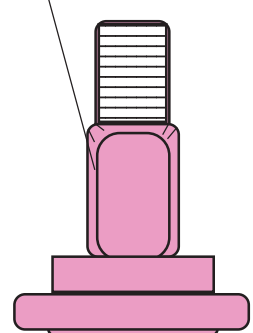
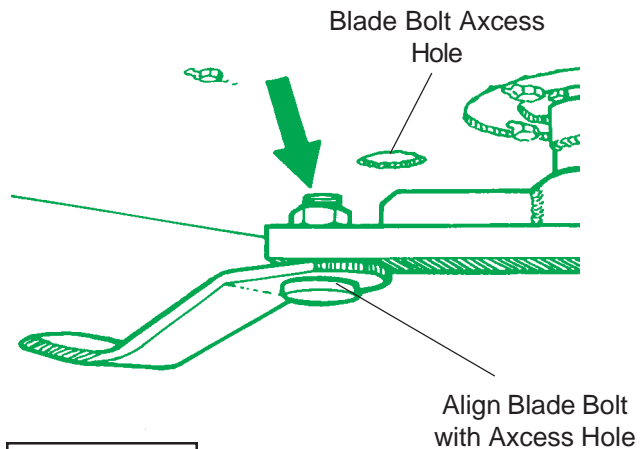

Figure 4
Figure 5
4. **Blade Bolts.** There is the square shanked blade bolt that is currently being used (figure 4) and the round keyed shanked bolt that was used in earlier production (figure 4). Both bolts will have the same torque rating. Both bolts need to be lined up with the blade bolt hole when being installed and tightened. The Keyed blade bolt is very critical that the key be aligned with the keyway in the hole. If keyed bolt is not aligned it will damage the bolts and/or the hole. The Sq. shanked bolt is important that it be aligned with the hole when tightening. Changing the blades is usually a two man job. Access to the blade bolt Nut is through the access hole (that is covered) on top of the deck. The easier method is to use an air impact. It will usually require you to turn the blade carrier to align bolt with hole (figure 5). Torque Blade Bolts to 300 ft. lbs.
6. **Blade Inspections,** the blades should be closely examined each morning before start up (figure 5). The Blade should be free of deep chips, cracks or abnormal bends. If the blades are sharp they will require less power while moving. Blades should be replaced when they become excessively worn, bent, or deformed. Blade are designed to turn the direction of cut as according which way the blade carrier turns as decided by the hydraulic motors direction of travel, CW or CCW. Make certain that the blades are installed on the correct blade carrier to match the direction of rotation. Make certain the holes in the blade carrier are not deformed or damaged. If any holes in carrier are not in serviceable condition, bolts will not stay tightened. DO NOT operate the mower with damaged holes in blade carriers.